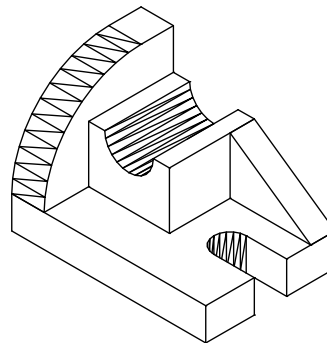

Figure 26-123 Next solid aligned with the base
20. Extrude the region to a depth of 16 units and then move it so that it is properly aligned with the base, see Figure 26-123.